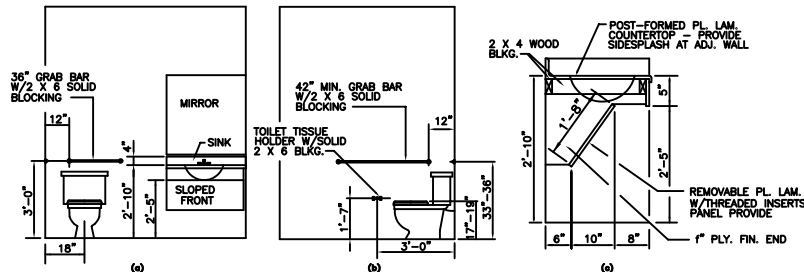

FIG. 31 LAVATORY & WATER CLOSET CLEARANCES
- 4.16.3 HEIGHT. THE HEIGHT OF WATER CLOSETS SHALL BE 17" TO 19" (430mm to 485mm), MEASURED TO THE TOP OF THE TOILET SEAT. SEATS SHALL NOT BE SPRUNG TO RETURN TO A LIFTED POSITION (SEE FIG. 31).
- 4.16.4 GRAB BARS. GRAB BARS FOR WATER CLOSETS NOT LOCATED IN STALLS SHALL COMPLY WITH 4.28 AND FIG. 31. THE GRAB BAR BEHIND THE WATER CLOSET SHALL BE 36" (915mm) MINIMUM.
- 4.16.6 DISPENSERS. TOILET PAPER DISPENSERS SHALL BE INSTALLED WITH REACH, AS SHOWN IN FIG. 31. DISPENSERS THAT CONTROL, DELIVER, OR THAT DO NOT PERMIT CONTINUOUS PAPER FLOW, SHALL NOT BE USED.
- 4.17.6 GRAB BARS. GRAB BARS MAY BE MOUNTED WITH ANY DESIRED METHOD AS LONG AS THEY HAVE A GRIPPING SURFACE AT THE LOCATIONS SHOWN IN FIG. 31 AND DO NOT OBSTRUCT THE REQUIRED CLEAR FLOOR AREA. GRAB BARS SHALL COMPLY WITH 4.28.
- 4.19.2 HEIGHT & CLEARANCES. LAVATORIES SHALL BE MOUNTED WITH THE RIM OR COUNTER SURFACE NO HIGHER THAN 34" (865mm) ABOVE THE FINISH FLOOR. PROVIDE A CLEARANCE OF AT LEAST 28" (725mm) ABOVE THE FINISH FLOOR TO THE BOTTOM OF THE APRON (SEE FIG. 31).
- 4.19.6 MIRRORS. MIRRORS SHALL BE MOUNTED WITH THE BOTTOM EDGE OF THE REFLECTING SURFACE NO HIGHER THAN 40" (1015mm) ABOVE THE FINISH FLOOR (SEE FIG. 31).
- 4.24.2 HEIGHT. SINKS SHALL BE MOUNTED WITH THE COUNTER OR RIM NO HIGHER THAN 34" (865mm) FROM THE FINISHED FLOOR (SEE FIG. 31).